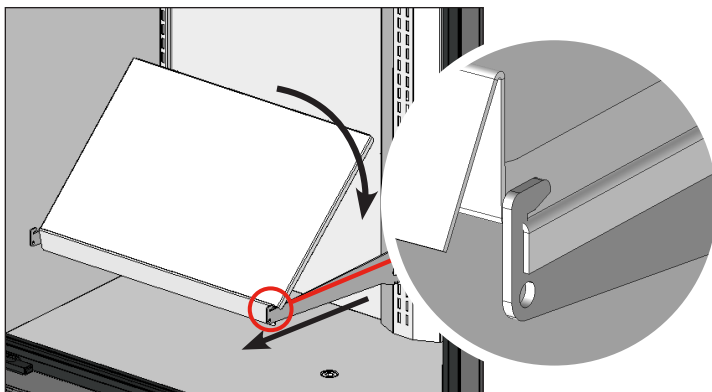

Fig. 9. Position the shelf while lifting the back of the shelf. Be sure the sides of the shelf hang over the bracket.
5. Lift the back of the shelf up. Position the shelf over the shelf support brackets. See fig. 9.
6. Carefully lower the back of the shelf and slide the shelf under the shelf support tab. See figs. 9 and 10.